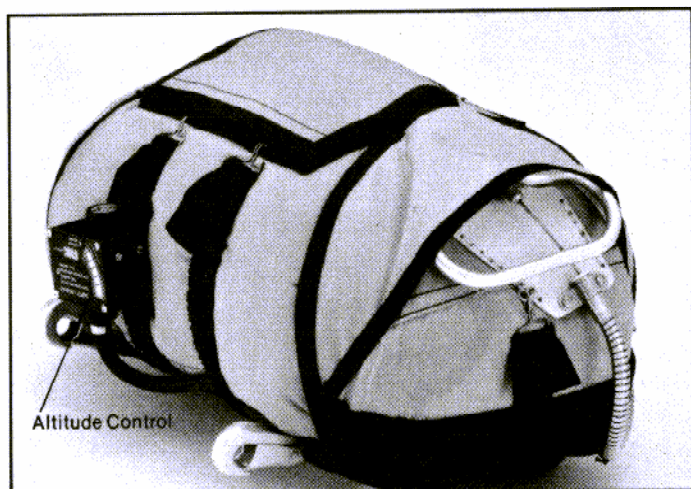

FIGURE 5
**E.** The Model 12000 Altitude Control and Air Hose, should be secured as shown in (Figure 5) and by feeding the opening band through the Altitude Control Bracket.